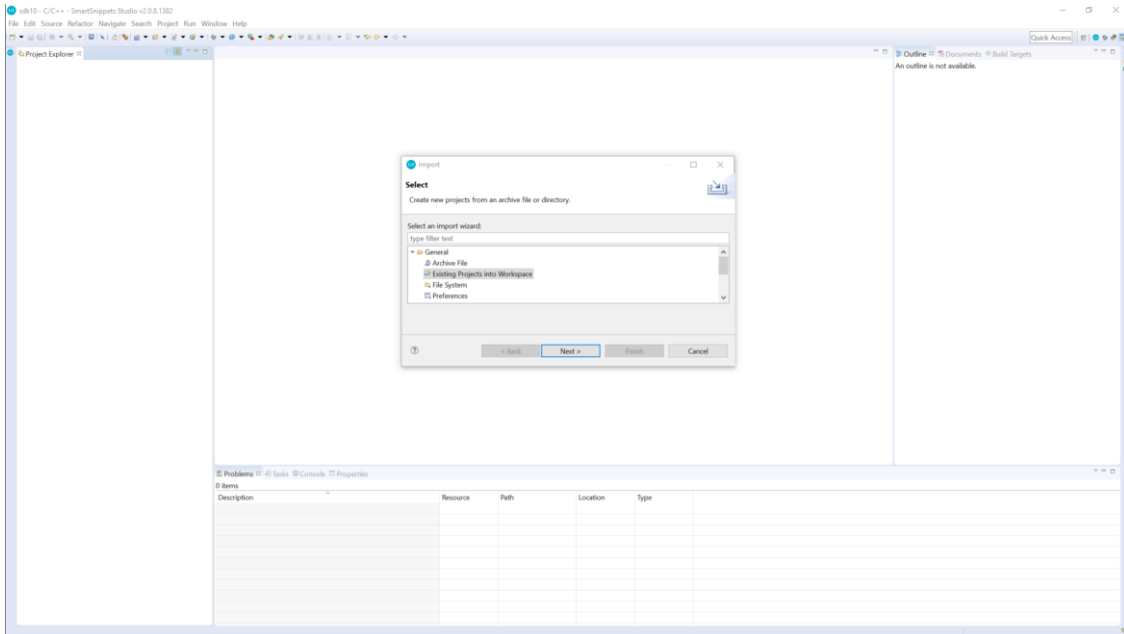
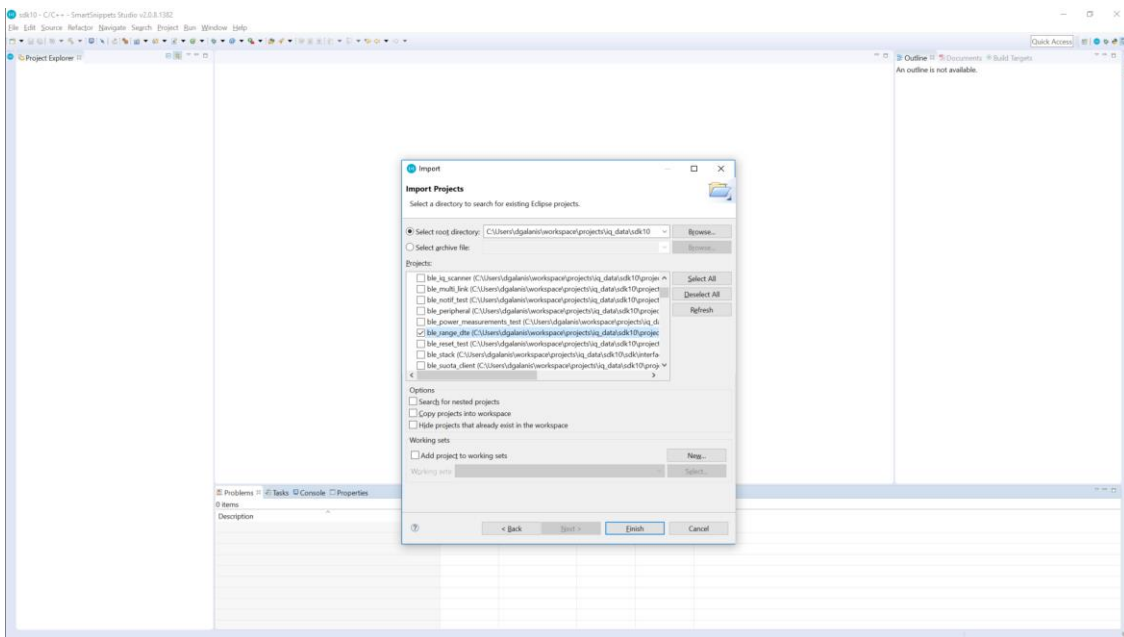

Figure 3: Import a Project into the Workspace
Figure 4: Select the ble_range_dte Project
- b. Select **General > Existing Projects into Workspace** >click **Next** (Figure 3) > **Select root directory** (Figure 4).